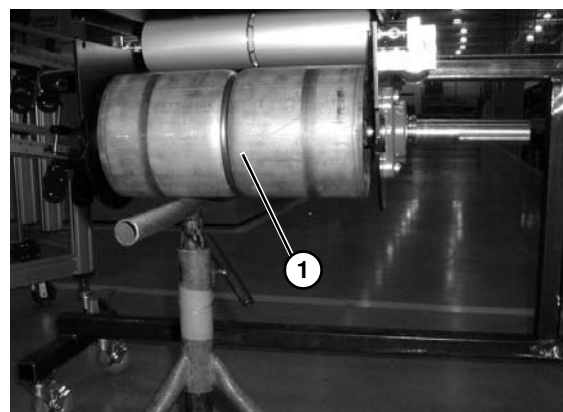

Figure 172
8. Temporarily support the drive pulley (**Figure 172, item 1**).